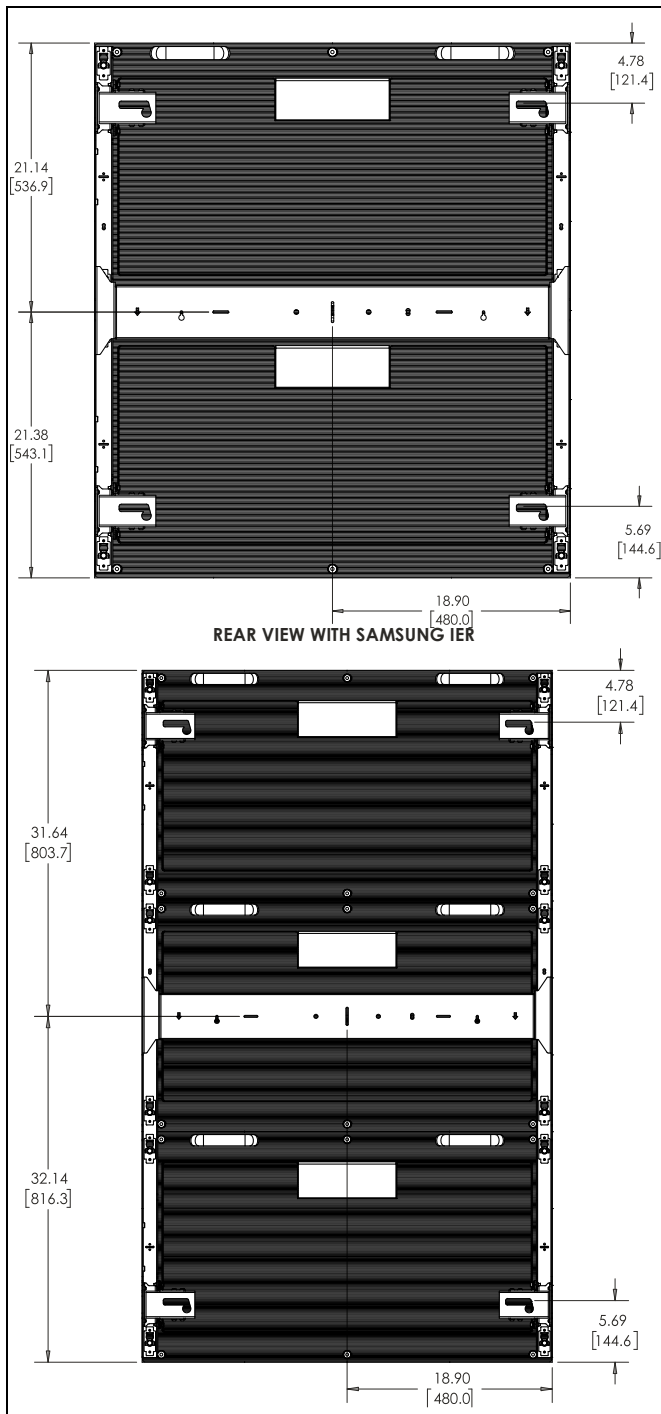

Figure 2
**NOTE:** Refer to dimensions drawings on pages 21-23 and in Figure 2 for further details on installation locations.
1. Determine location for the **bottom left** corner of the LED wall. (See Figure 2)
2. Make a mark at the centerline for the lowest row of video wall above the planned bottom left corner of the LED wall. (See Figure 2)